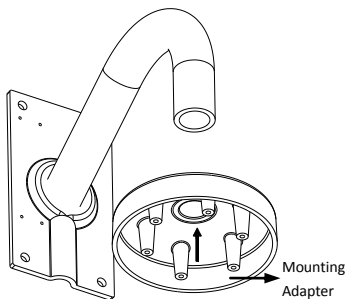

Figure 2-11 Install the Mounting Adapter
2. Install the wall mount and mounting adapter as shown in Figure 2-11.